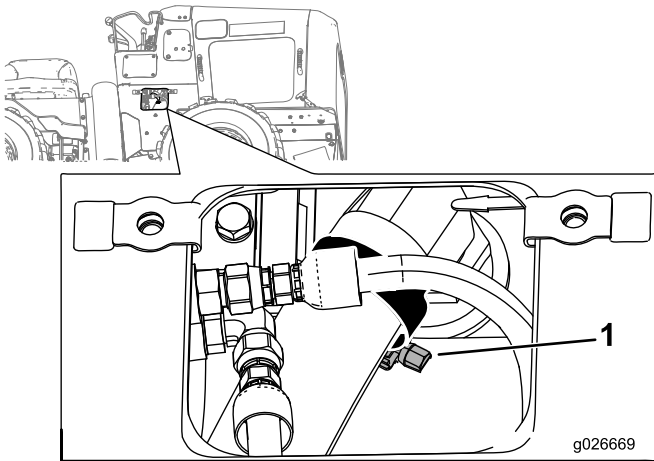

Figure 43
5. Remove the lower right side cover plate and loosen the hose clamp holding the suction hose to the hydraulic tank (Figure 43).